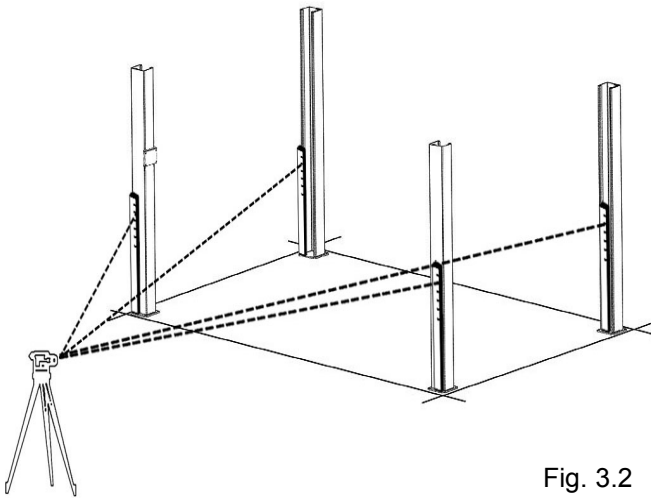

Fig. 3.2
2. To estimate the shim requirements, place a target on floor at each Column position and record the readings. Find the highest of the four locations then find the difference between each of the remaining Columns. This difference is the estimated amount of shim thickness that will be required at each Column. (See Fig. 3.2)